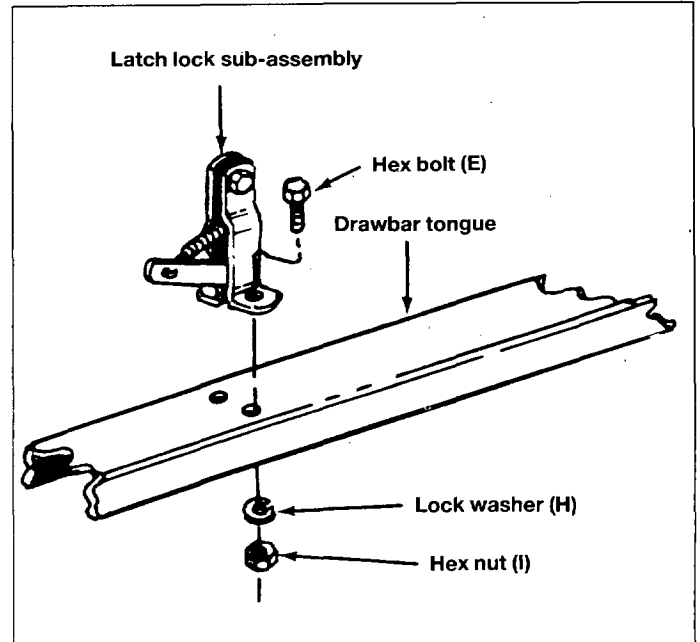

Fig. 13
18. Assemble latch lock sub-assembly to draw bar tongue using $1/4" \times 5/8$ (6 x 16 mm) long hex bolt (E), lock washers (H) and hex nuts (I). See figure 13.